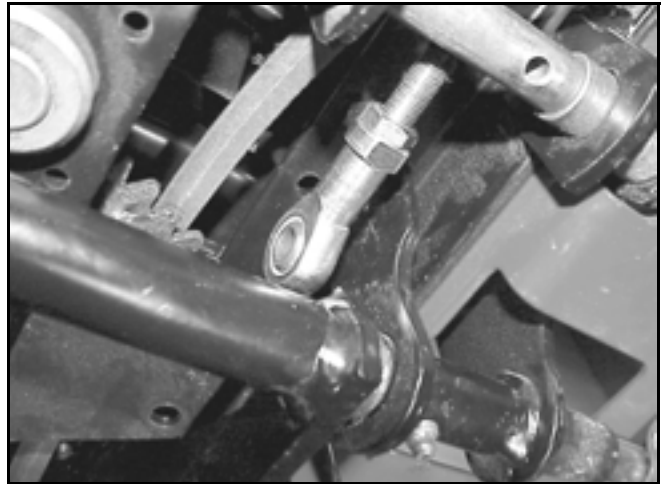

Figure 149
3. Loosen the jam nut and turn the rod end until you achieve $1\frac{1}{4}$ " (31.75mm) to $1\frac{3}{8}$ " (34.925mm) gap between the footrest and the back side of the forward/reverse control pedal (Figure 149).